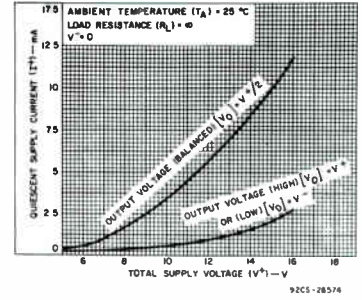

Fig. 7 – Quiescent supply current vs. supply voltage.
**Single-supply operation:** Initially, let it be assumed that the value of  $R_L$  is very high (or disconnected), and that the input-terminal bias (Terms. 2 and 3) is such that the output terminal (No. 6) voltage is at  $V^+/2$ , i.e., the voltage-drops across Q8 and Q12 are of equal magnitude. Fig. 7 shows typical quiescent supply-current vs. supply-voltage for the CA3130 operated under these conditions. Since the output stage is operating as a Class A amplifier, the supply-current will remain constant under dynamic operating conditions as long as the transistors are operated in the linear portion of their voltage-transfer characteristics (see Fig. 6). If either Q8 or Q12 are swung out of their linear regions toward cut-off (a non-linear region), there will be a corresponding reduction in supply-current. In the extreme case, e.g., with Term. 8 swung down to ground potential (or tied to ground), NMOS transistor Q12 is completely cut off and the supply-current to series-connected transistors Q8, Q12 goes essentially to zero. The two preceding stages in the CA3130, however, continue to draw modest supply-current (see the lower curve in Fig. 7) even though the output stage is strobed off. Fig. 14a shows a dual-supply arrangement for the output stage that can also be strobed off, assuming  $R_L = \infty$ , by pulling the potential of Term. 8 down to that of Term. 4.